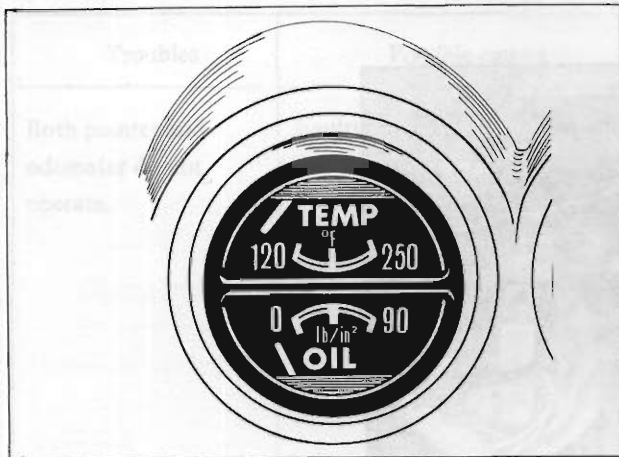

Fig. BE-17 Water temperature gauge and oil pressure gauge
**Note:** See Figure BE-17 for details of the tachometer support bracket and mounting bracket.